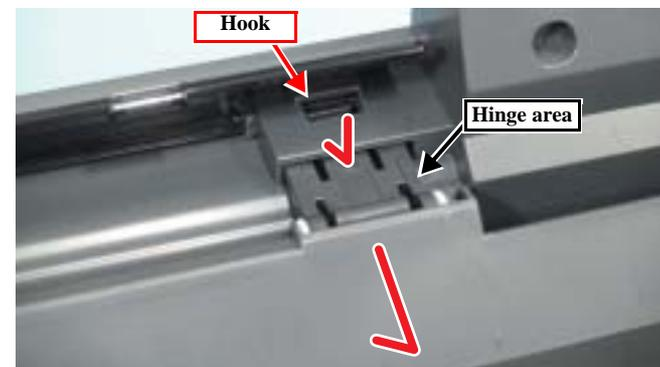

Figure 4-46. Removing the TPU Unit
2. Remove the TPU Unit while pushing the hook (middle) in the hinge area of the TPU Unit. (Fig. 4-46)